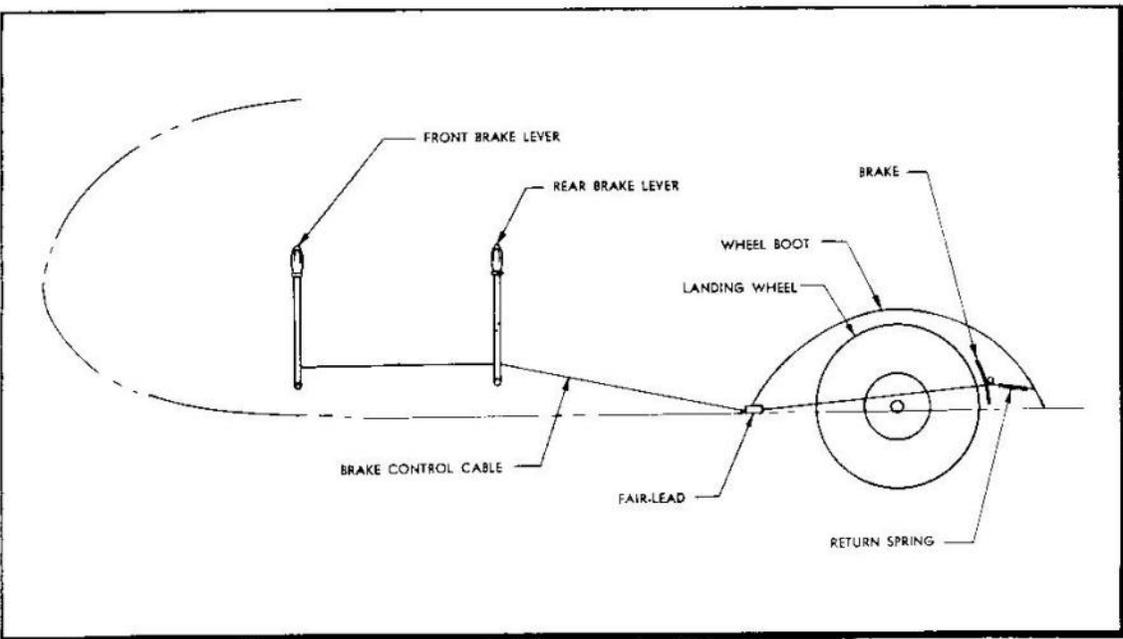

Figure 24 - Brake Controls Diagram
g. The brake is cable controlled, and is operated by pulling rearward on the brake levers on the lower left side of each cockpit. (See figure 24.)